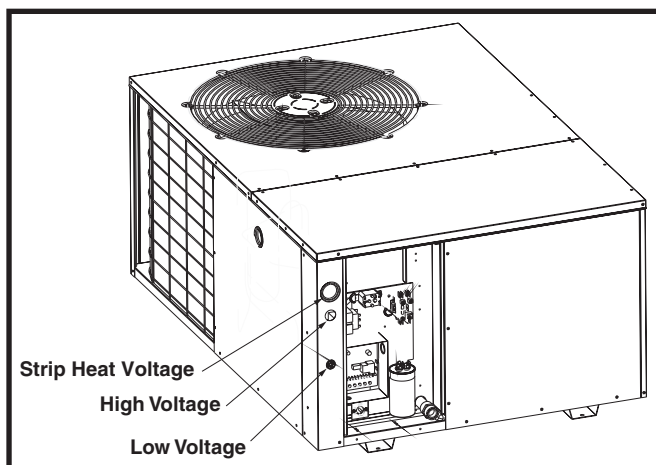

Figure 8. Power Entry
- Provide power supply for the unit in accordance with the unit wiring diagram, and the unit rating plate. Connect the line-voltage leads to the terminals on the contactor inside the control compartment. Extend leads through power wiring hole. See Figure 8. Connect L1 & L2 directly to the contactor.